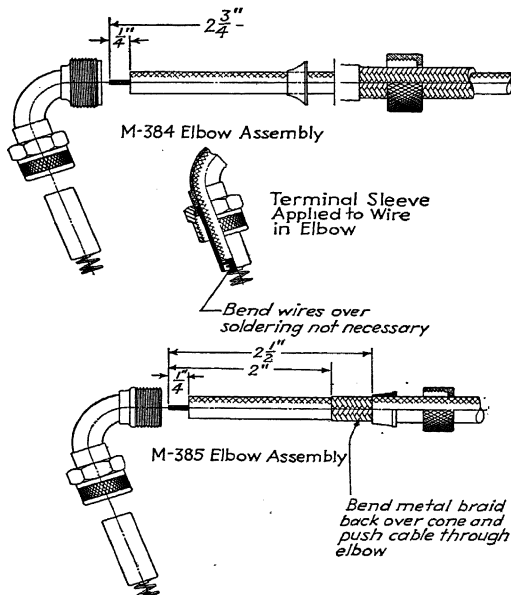

FIG. 17.—Elbow assembly of two types of plug.
**Elbow Assembly, Spark Plug.**—To avoid difficulty, spark-plug elbows, used with shielded spark plugs, must be properly assembled on the ignition harness. Details to be followed for correct assembly are illustrated in Fig. 17.